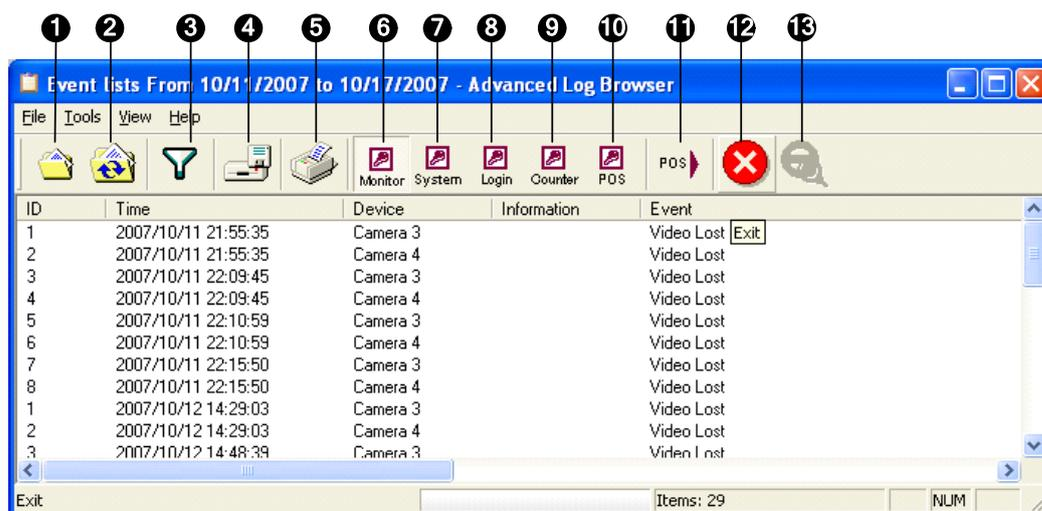

Figure 4-17 Advanced Log Browser
Click the **Event Query** button (No. 6, Figure 4-17) on the Quick Search window, and the following dialog box will appear. Use this function to find POS events by a specific item, transaction, or date.
1. Click the **Expand/Shrink Dialog** button (No11, Figure 4-17), and select **Advanced Search**. The Advanced Search panel appears.